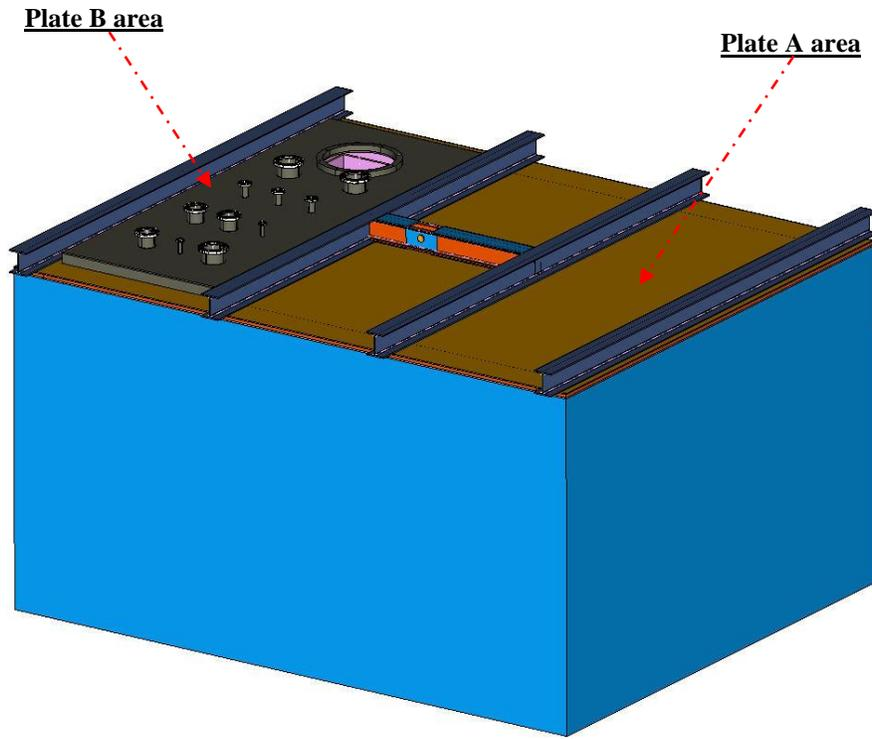
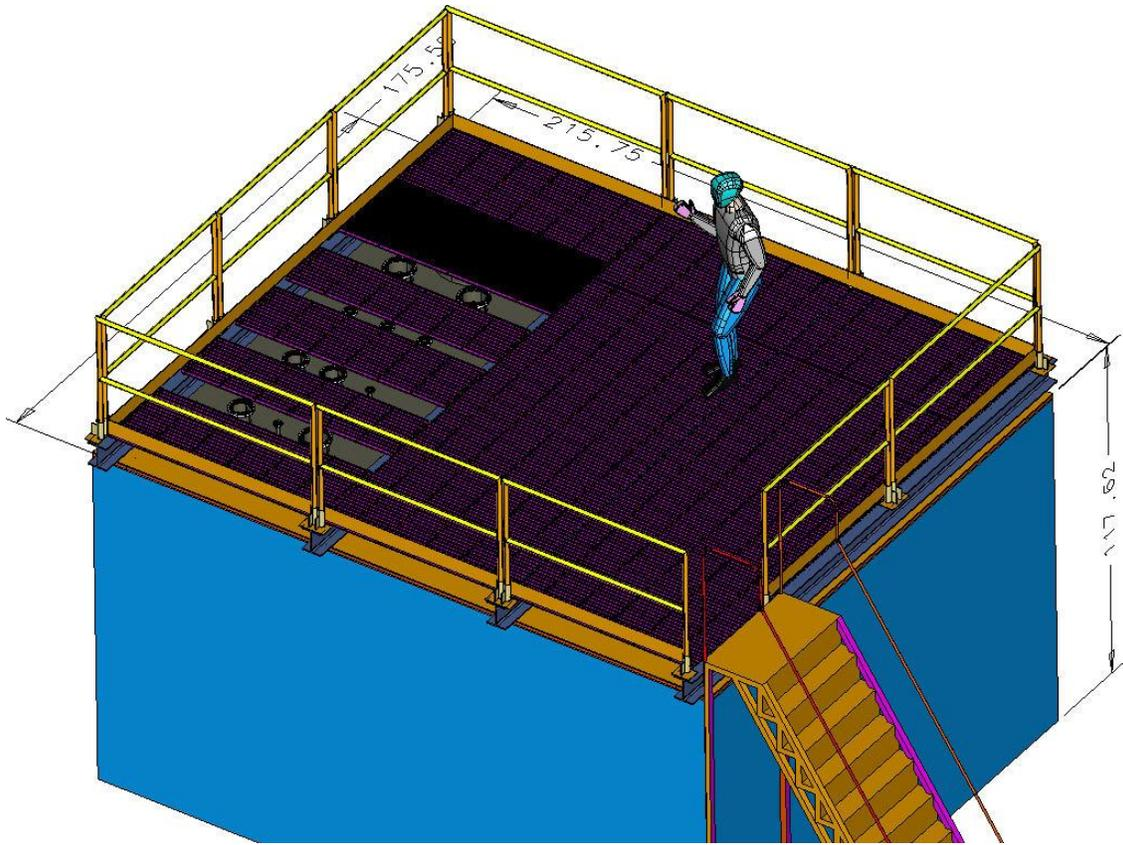

Figure 1, The overall view of the LBNE 35 ton Prototype Detector
Figure 5, The view of the detector with the platform
(Assuming 4 beams, 351 lbs/beam, 251 lbs of the lifting fixture applying dead load to the 263 ft² area uniformly, see figure 5 on page 6).
1. Assuming the detector installed as showing from figure 5, where the live load (100 lbs/ft²) will apply to the top structure through four w8x24 beam, conservatively assume that $L_{\text{totB}} = 140 \text{ lbs/ft}^2$ will apply the whole top floor area, then:
(See figure 1 and figure 5)
Brief introduction of the layout pictures from figure 1 to figure 5:
- Figure 1 is the outside overall view of the detector without the platform.
- Figure 5 showing the overall dimensions of the detector and the configuration of the platform with the accessories.